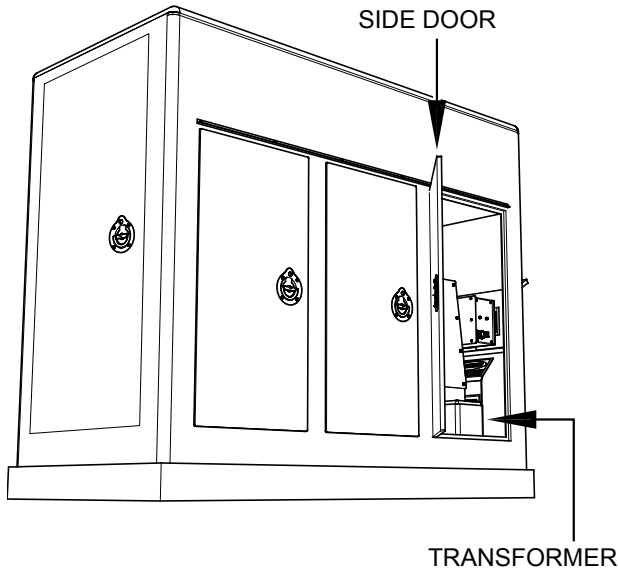

Figure 2. Transformer Location
1. Open the side door (Figure 2) and locate the transform.